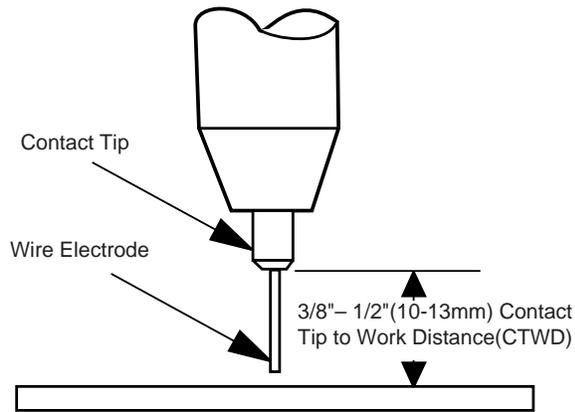

FIGURE B.6
13. Refer to Figure B-6. Cut the wire off 3/8" – 1/2" (10 – 13 mm) from the end of the tip. The Pro-MIG 140 is now ready to weld.